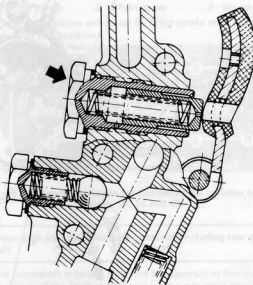

Fig. 1.9. Timing chain tensioner components (Sec. 14)
- 2 There is no need to adjust the timing chain tension; a spring loaded plunger acting on a shoe in contact with the chain, holds the chain at the correct tension at all times. The alignment of the drive sprocket and the camshaft chain wheel is dealt with in the next few paragraphs as part of the removal and installation procedure (Fig. 1.9).